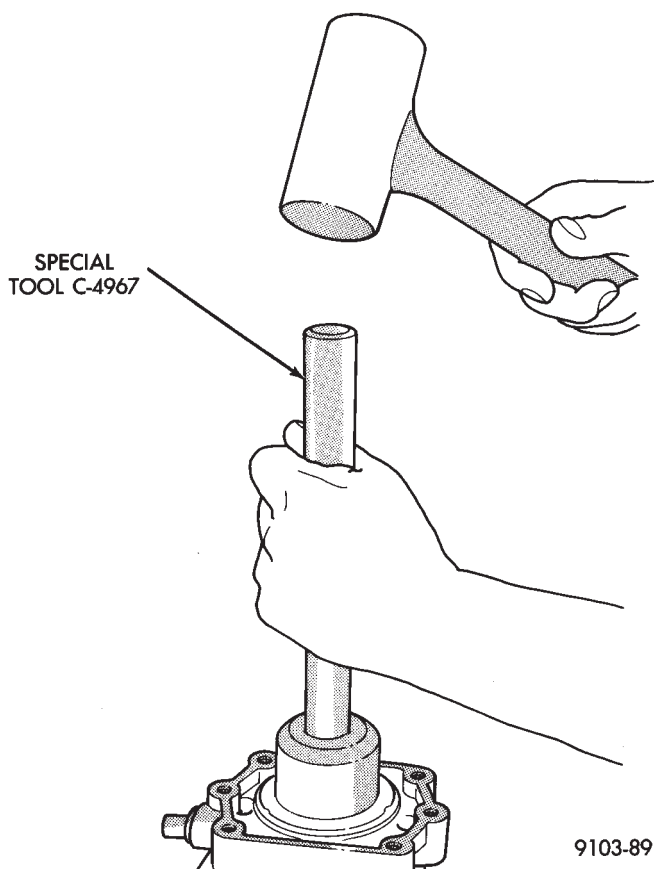

Fig. 16 Seal Removal
(16) Drive out seal with special tool C-4967 (Fig. 16)